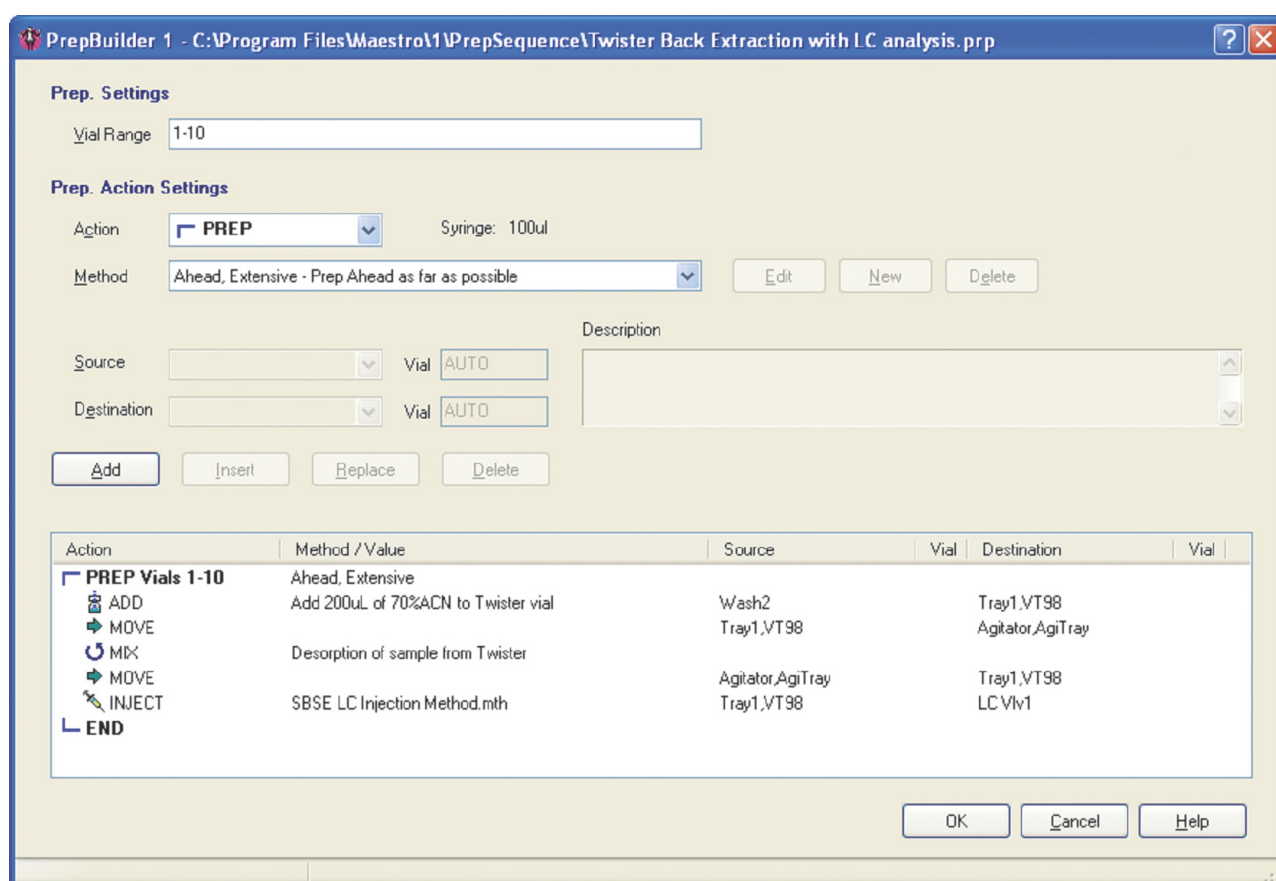

Figure 6. MAESTRO prep-sequence for Twister back-extraction followed by LC analysis.
- The basic procedure shown in Figure 6 requires the following steps: